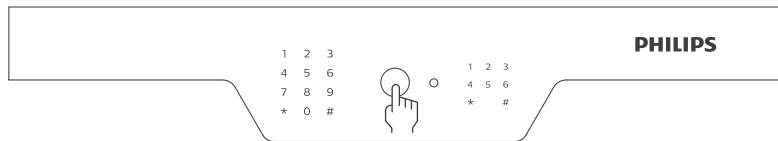

Figure 2
1. Open safe door and press "👤" on the battery compartment. After hearing a voice prompt "Please enter fingerprint or PIN code", enter your fingerprint as shown in Figure 2. A voice prompt "Fingerprint entering succeeded." indicates successful operation. If the entering fails, there will be a voice prompt "Fingerprint entering failed". The system will automatically exit if there is no entering in 8 seconds.